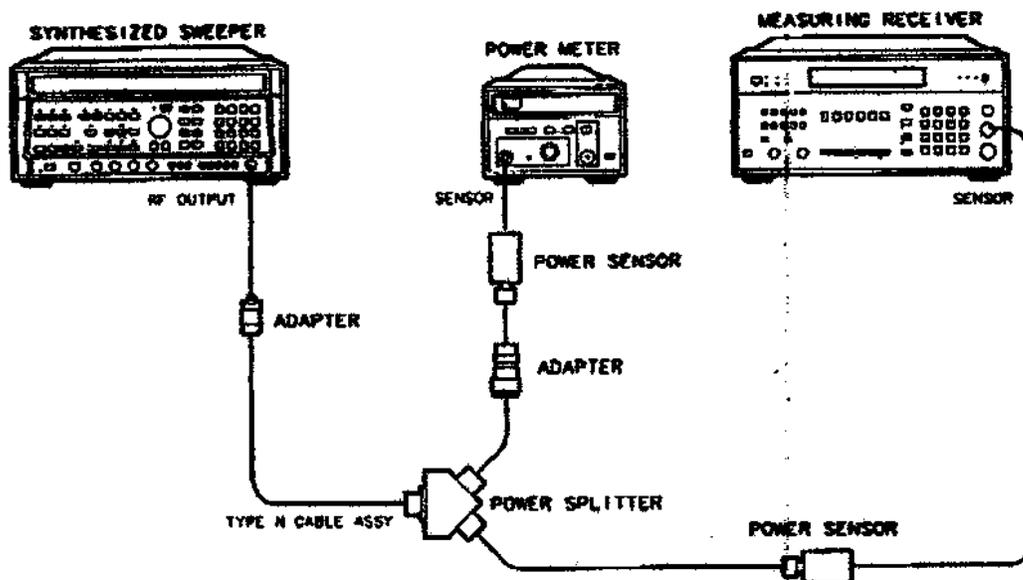

Figure 2-23. System Characterization Test Setup (*Option 001*)
4. Connect the equipment as shown in Figure 2-23.